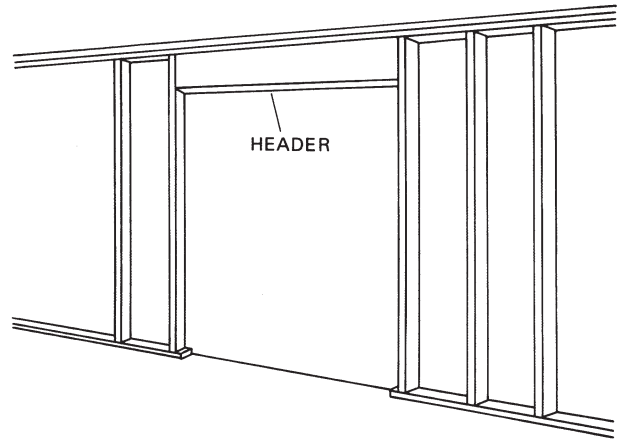

Fig. 9-133 Placement of the header in the rough opening. (Andersen.)
3. Position the header at the proper height between the regular studs. Nail through the regular studs into the header to hold the header in place until the next step is completed (Fig. 9-133).